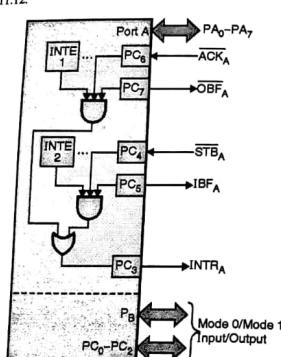

Fig. 9.11.12 : PA, PB and PC in mode 2
- The interrupt signals of input and output mode are combined to generate common interrupt signal to CPU. The internal organization of these signals is as shown in Fig. 9.11.12.